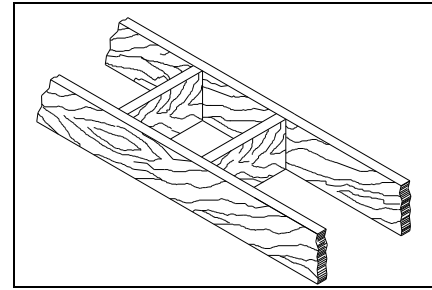

Figure 27
1. Cut and frame the holes in the ceiling, floor and roof where the chimney will pass (see figure 27). Use a plumb bob to line up the center of the holes. The sizes are indicated in table 1 for the floor and ceiling holes and table 2 (page 24) for the roof holes.